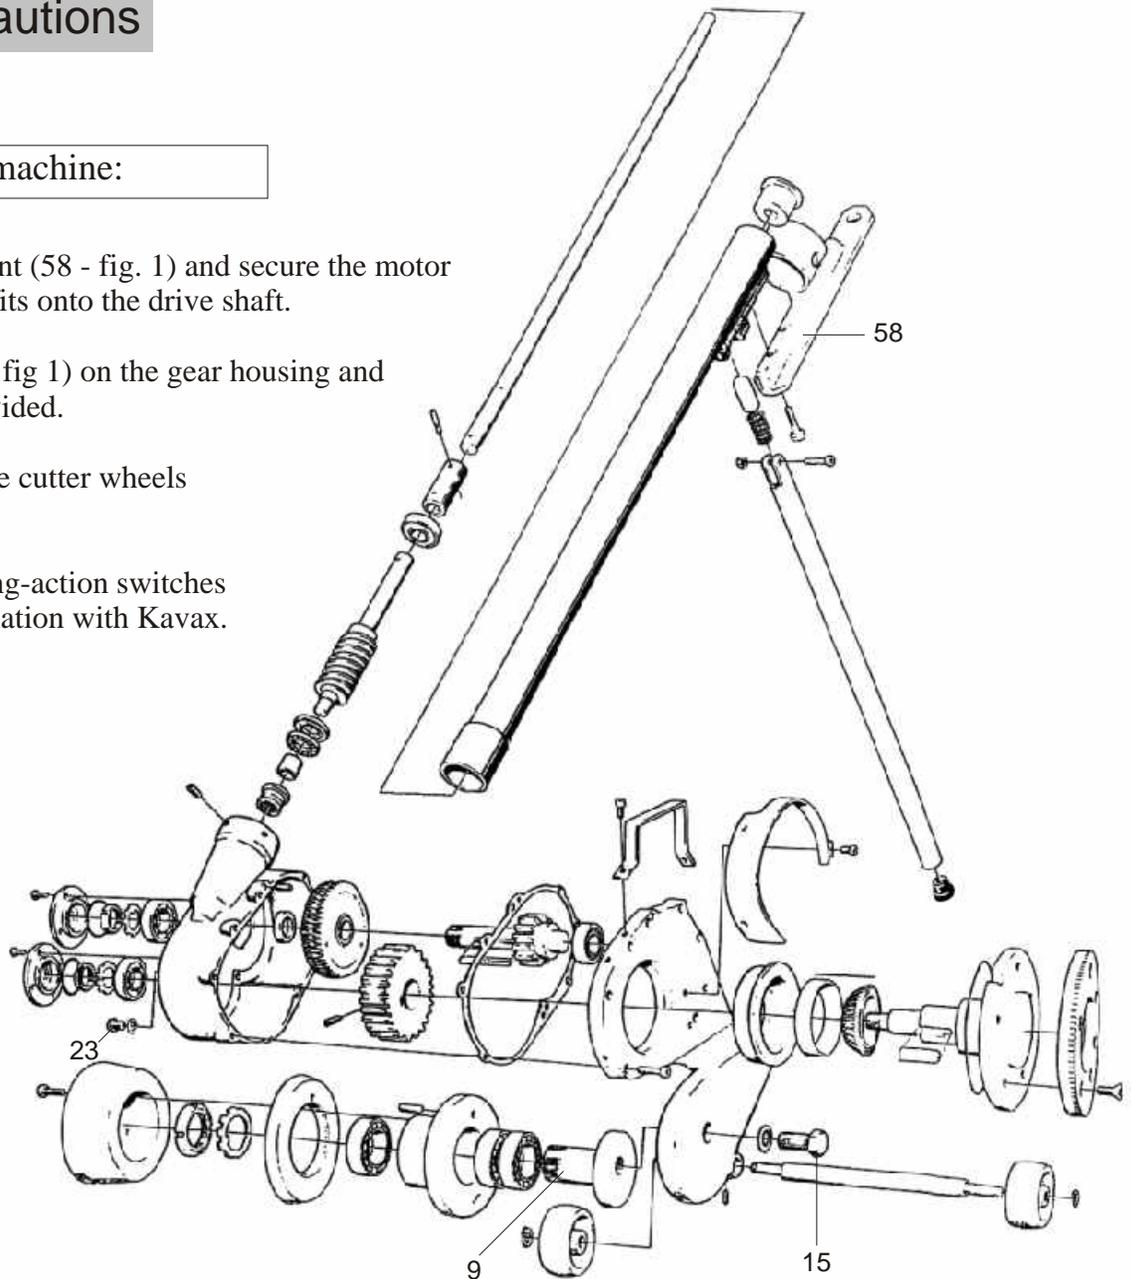

fig. 1
- Fit the motor attachment (58 - fig. 1) and secure the motor so the direct coupling fits onto the drive shaft.
- Remove the plug (23 - fig 1) on the gear housing and fill up with the oil provided.
To change oil, remove the plug (23 - fig 1) and place the machine on its side so that all the oil flows out. Refill with 0.25 dm3 (litres) of Kavax Oil X 1001-3, which can be obtained from your retailer.
The setting of the cutter wheels should be checked at regular intervals and, needless to say, always adjusted after regrinding. The correct overlap is 1.0-1.5 mm. To adjust, turn the lower cutter wheel shaft (9 - fig. 1) having first slackened the screw (15 - fig. 1). The play between the cutter wheels is approx. 0.15mm.